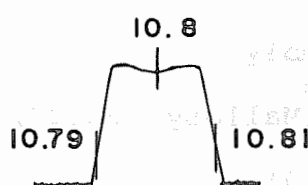

Figure 2
4. Detune T5 for maximum 1F output display. See Fig. 2.